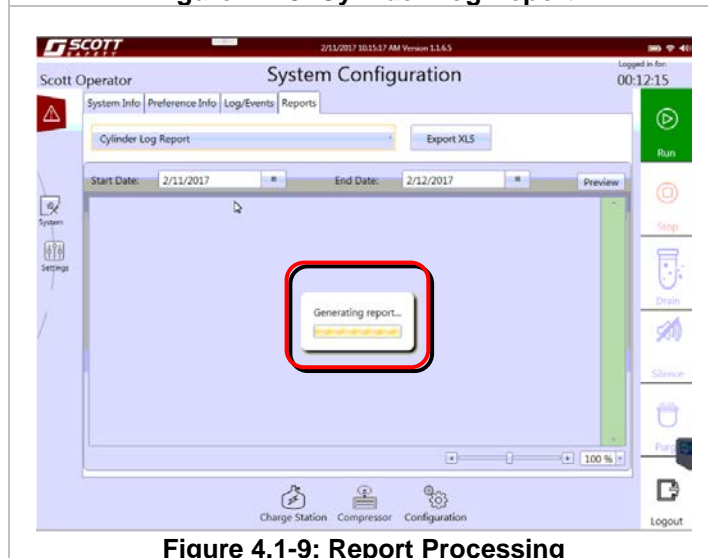

Figure 4.1-9: Report Processing
10. The system will begin generating the report. See Figure 4.1-9.